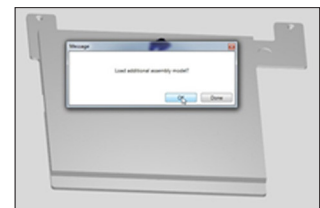

Fig. 73
- Open the first part of your .stl assembly file, a screen will appear asking if you wish to add an additional assembly model. Selecting OK will bring back the open file window. (Fig. 73)